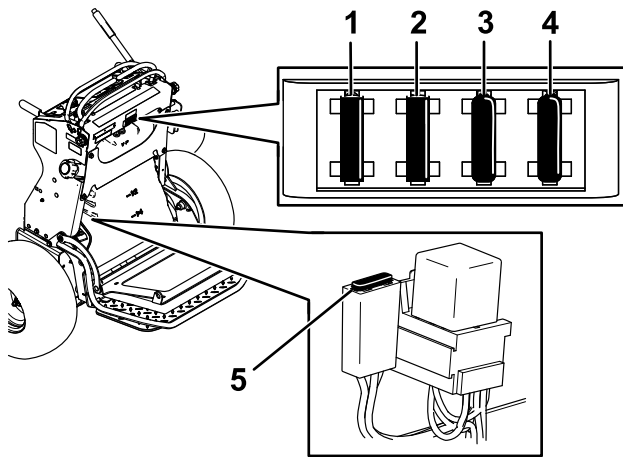

Figure 52
5. Pull out the fuse and replace it (Figure 52).